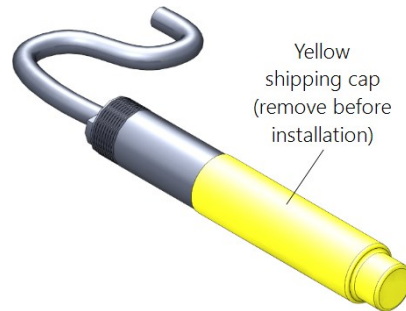

FIGURE 7-1. HMP60 as shipped
1. Pull off the yellow shipping cap (see FIGURE 7-1 (p. 9)).